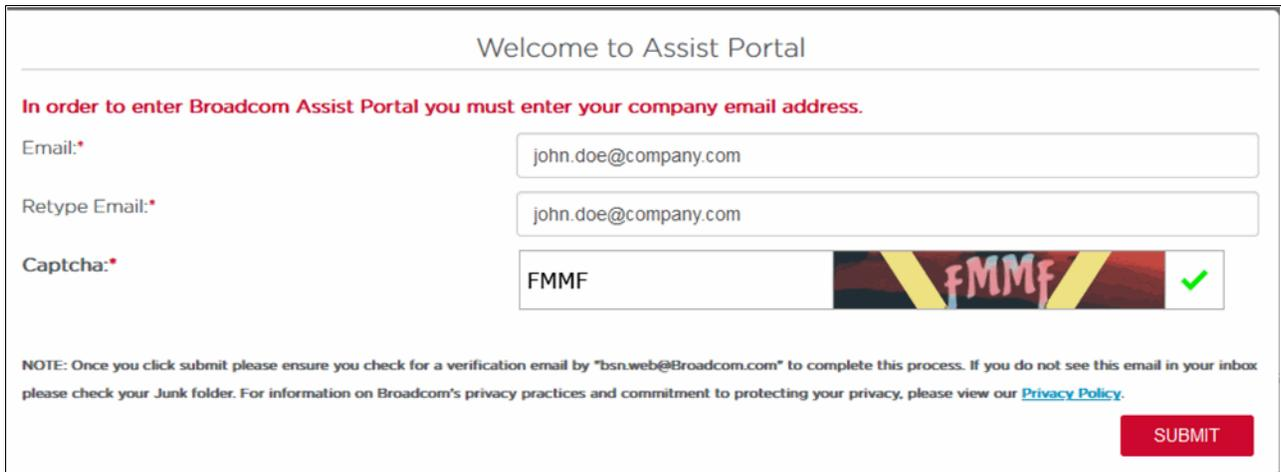

Figure 2-9 Broadcom Assist Portal window
10. On the Broadcom Assist Portal window, enter your email address and complete the captcha, as shown in Figure 2-9.